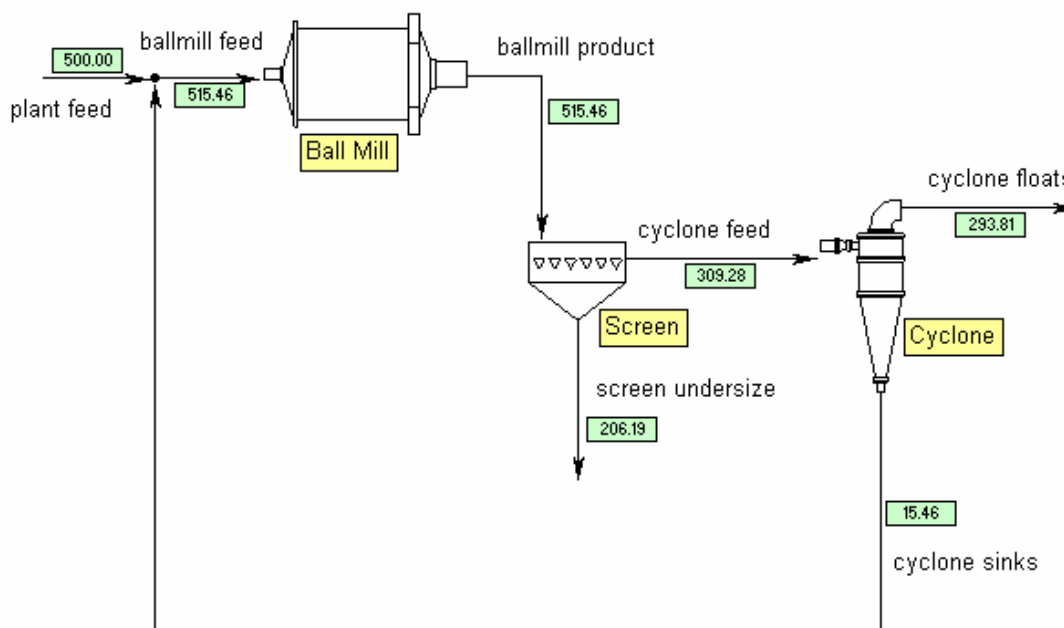

Figure 25: Modified stream flowsheet
- 7.3 Click on the cyclone sinks stream and join the stream to the ballmill feed stream as in figure 25 above.
- 7.4 Rename the streams to plant feed and ballmill feed as per figure 25 above.